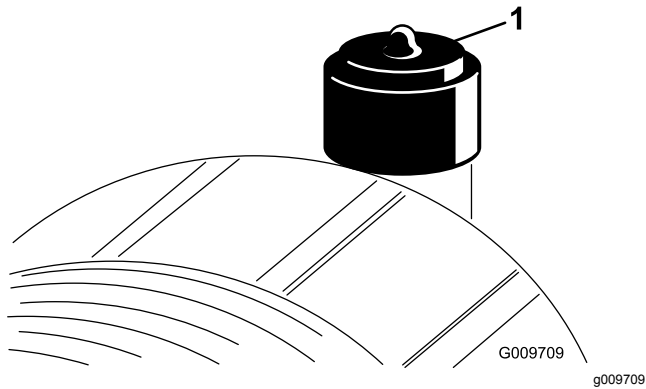

Figure 54
Service the air-cleaner filter only when the service indicator (Figure 54) requires it. Changing the air filter before it is necessary only increases the chance of dirt entering the engine when the filter is removed.
9. Reset the indicator (Figure 54) if it shows red.